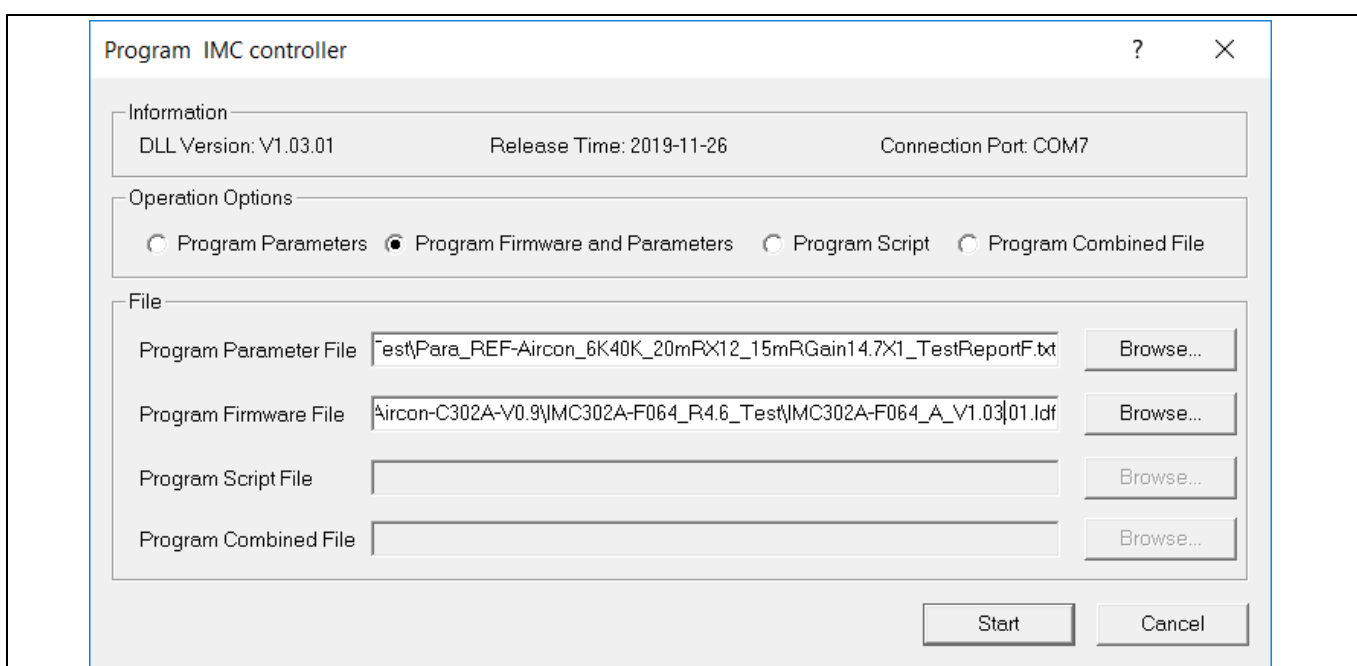

**Figure 6 MCEDesigner warning message**
7. *In case of blank IC: If the firmware has been erased from the IMC302A, a warning message will pop up saying “Target device firmware and parameters file are not programmed! Please program firmware and parameters file.” (Figure 6) See step 9 on how to obtain/program firmware and parameters.*